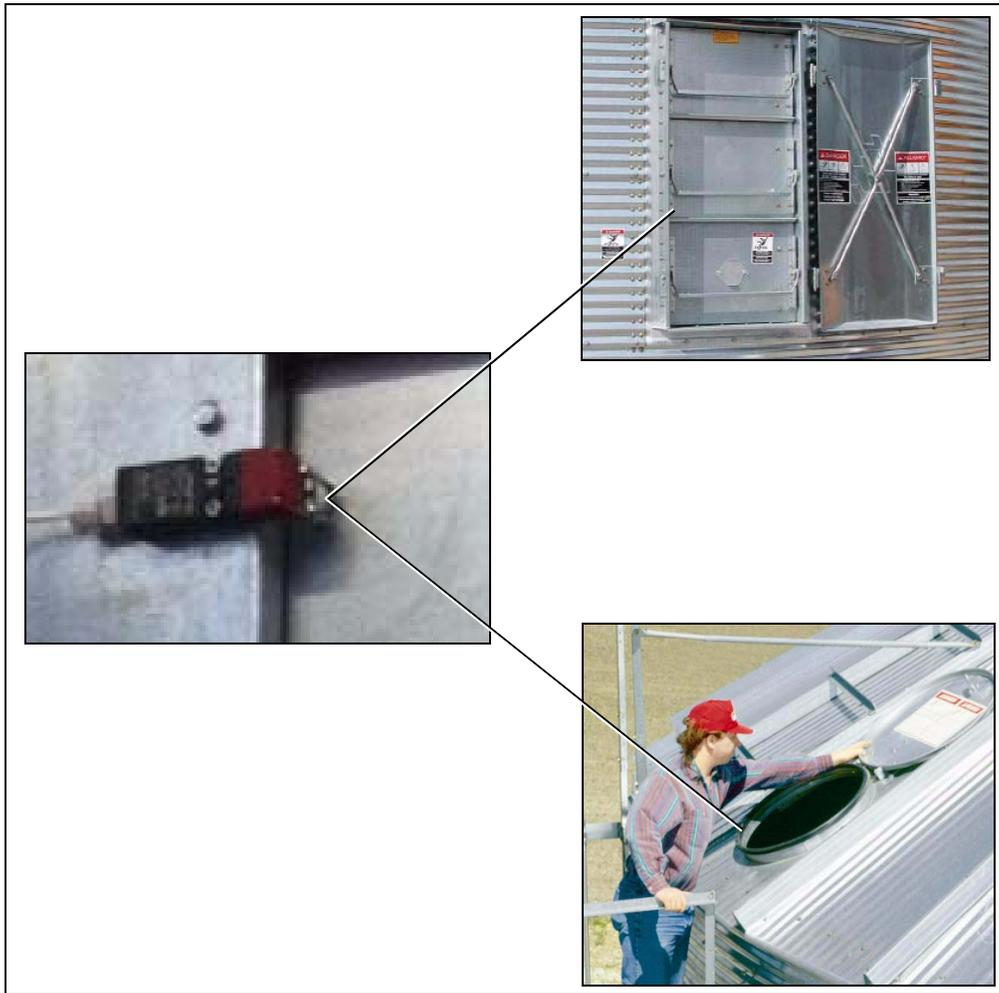

Figure 1B
- d. Safety circuits should be Category 3 in accordance with EN 954-1:1997 or PLC in accordance with ISO 13849-1:2006. (See Figure 1B on Page 14.)